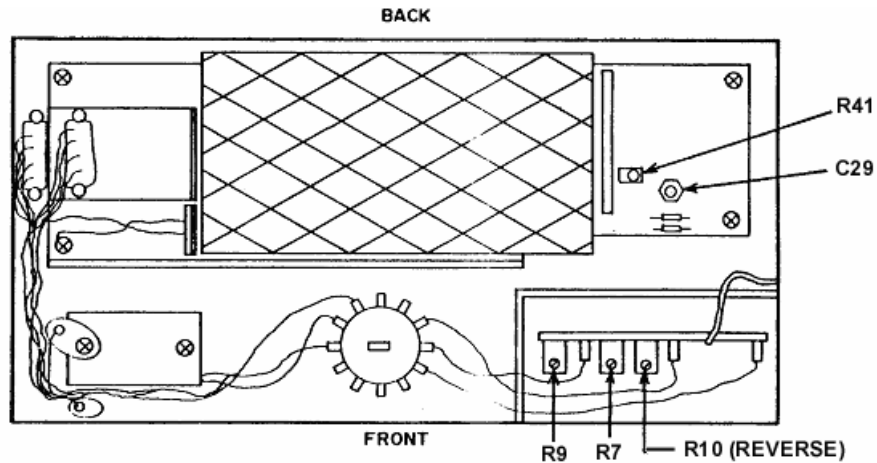

Figure 1. Test instrument - bottom view.
(1) Connect spectrum analyzer RF input to TI **RADIO** connector.
(2) Set **MODE** switch to **SENS SQ** and press **PUSH-TO-TEST** button.
(3) For SN 1 through 634, adjust spectrum analyzer to observe frequencies from 30 to 75 MHz. If output levels do not indicate between -94 and -100 dBm from 30 to 75 MHz, perform **b** below. For SN 635 and above, adjust spectrum analyzer to observe frequencies from 30 to 80 MHz. If output levels do not indicate between -95 and -101 dBm from 30 to 80 MHz, perform **b** below.
b. Adjustments. Adjust R41 (fig. 1) for overall output levels and C29 (fig 1) for higher frequency output levels for spectrum analyzer indications between -94 and -100 dBm for SN 1 through 364 and between -95 and -101 dBm for SN 635 and above (R).
- (1) Adjust RF power amplifier for power meter reading computed in **a(4)** above.
- (2) Adjust R9 (forward) (fig. 1) until TI display indicates 40.0 W (R).
- (3) Adjust R7 (forward) (fig. 1) until TI display indicated 1.0 W. Repeat (1) through (3) above as necessary to obtain best in-tolerance conditions throughout the range of instrument.
- (4) Adjust RF power amplifier for power meter reading computed in **a(4)** above.
- (5) Adjust R10 (REVERSE) (fig. 1) until TI display indicates 20.0 W (R).